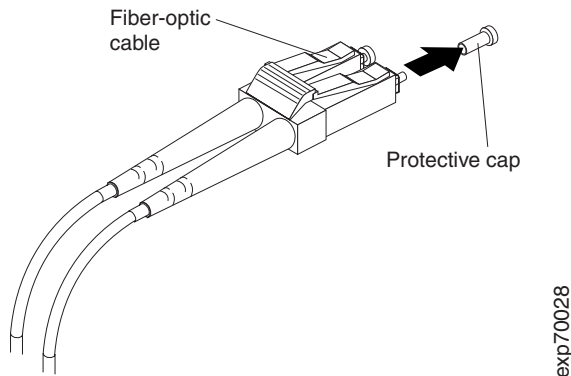

Figure 17. Removing fiber-optic cable protective caps
3. Remove the two protective caps from one end of the LC-LC cable, as shown in Figure 17. Save the protective caps for future use.